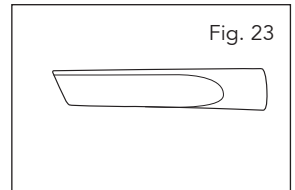

Fig. 23
The crevice nozzle (24) is designed for vacuuming solids and liquids in corners, edges and other areas that are difficult to access (Fig. 23).